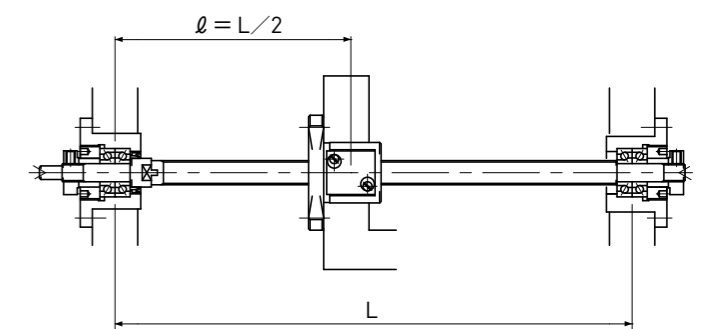

Fig. A-109 : Fixed-Fixed in axial direction
(2) In case of Fixed-Fixed mounting in axial direction (Fig. A-109)